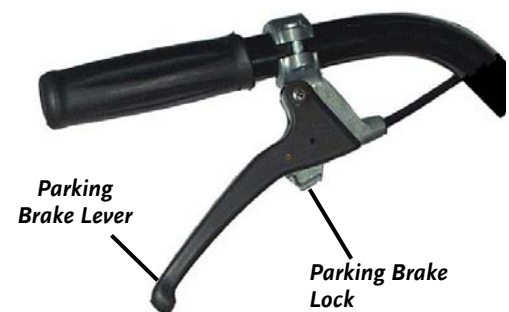

Figure 5
5. Set the Parking Brake by squeezing the Brake Lever (**Figure 5**) on the right Handlebar and lift up on the Parking Brake Lock (**Figure 5**), locking the lever in place. To release the Parking Brake, just squeeze the Parking Brake Lever again.
2. Set the Parking Brake by squeezing the Parking Brake Lever on the right Handlebar and lifting the Parking Brake Lock (*Figure 5* on page 13).